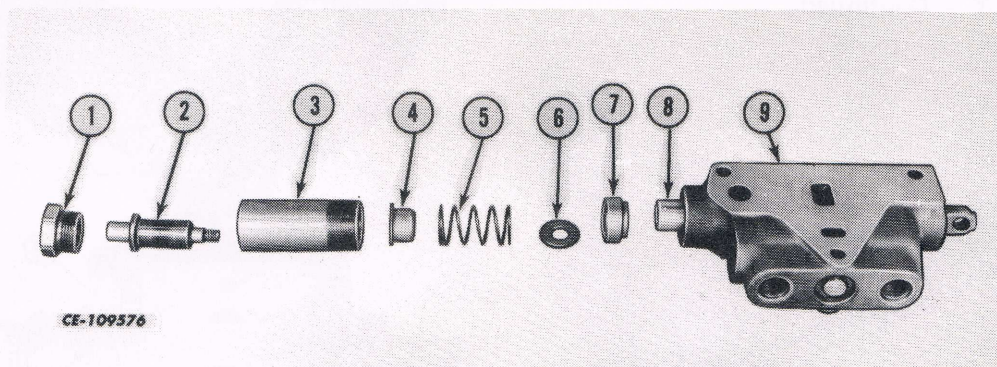

Fig. 45
3. Remove the detent assembly (2, Fig. 45) from the valve.
4. After the detent assembly is removed, remove the sleeve (3, Fig. 45). The rest of the parts may now be removed from the valve.